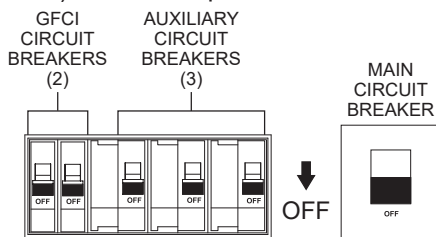

Figure 62. Main, Auxiliary, And GFCI Circuit Breakers (OFF)
2. Place the **main, auxiliary, and GFCI** circuit breakers (Figure 62) in the **OFF** position.
2. Place the **main, auxiliary, and GFCI circuit breakers** in the **OFF** position as shown in Figure 62.